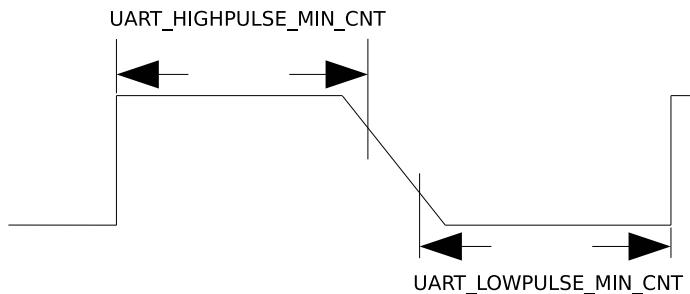

Figure 22-4. The Timing Diagram of Weak UART Signals Along Falling Edges
2. If UART signals are weak along falling edges as shown in Figure 22-4, which leads to inaccurate average of UART_LOWPULSE_MIN_CNT and UART_HIGHPULSE_MIN_CNT, use UART_POSEDGE_MIN_CNT to determine the transmitter's baud rate as follows: